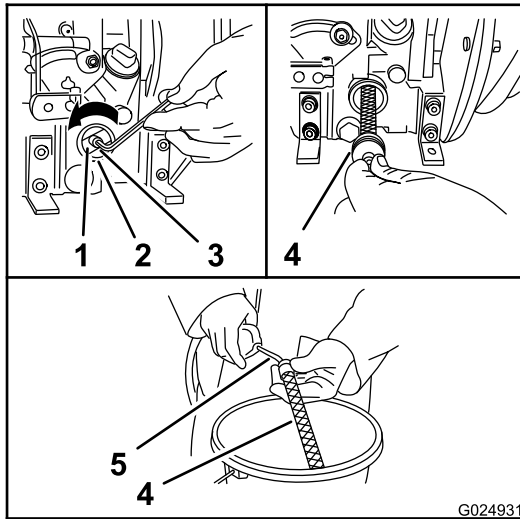

Figure 22
2. Loosen the socket-hex bolt approximately 5 turns counterclockwise (Figure 22).
3. Pull the oil filter out of the filter housing (Figure 22).
4. Blow out the oil filter with compressed air from the inside to the outside (Figure 22).
6. Insert the oil filter into the filter housing (Figure 22).
7. Before tightening the screw, ensure that the tension spring rest against the oil filter at both ends (Figure 22).
8. Tighten the socket-hex bolt (Figure 22).